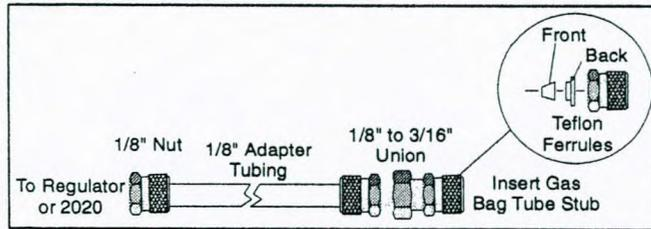

Figure 12 Gas Bag Adapter
**Note:** Do not remove the nut from the union as the Teflon ferrules contained inside the nut may be lost. See Figure 12.